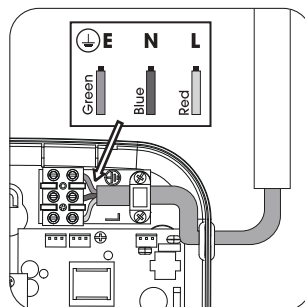

Fig. 4
2. Connect the cable to the Terminal Block as follows **(Fig. 4)** :